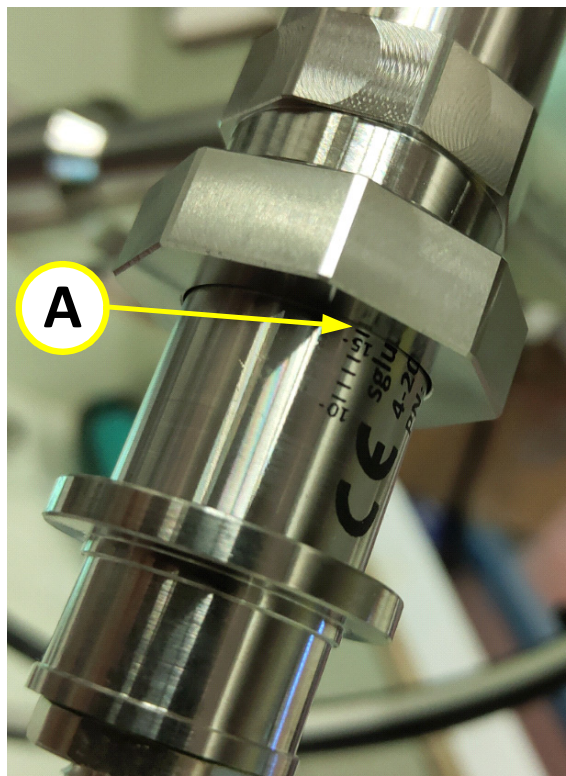

Figure 10-29: Using mm scale as position reference
- Step 1.** Before removing the UVIS sensor, look at the point where the millimeter scale on the sensor touches the securing nut (**A** in **Figure 10-29**).
- Step 8.** When you return the sensor to its place, make sure to insert it to the same reference point on the mm scale (**A** in **Figure 10-29**) recorded in **Step 1.** on page 10-123.